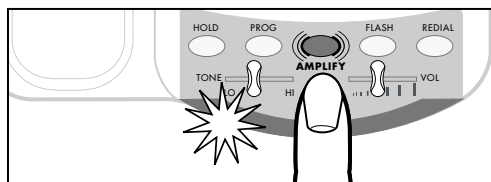

Figure 8 - AMPLIFY Button and Indicator
1. Press the **AMPLIFY** button as shown in Figure 8 to turn the incoming voice amplifier ON or OFF. When **AMPLIFY** is on, the **AMPLIFY** indicator light comes on.
1. When you hear a voice on the line, press the **AMPLIFY** button shown in Figure 8.